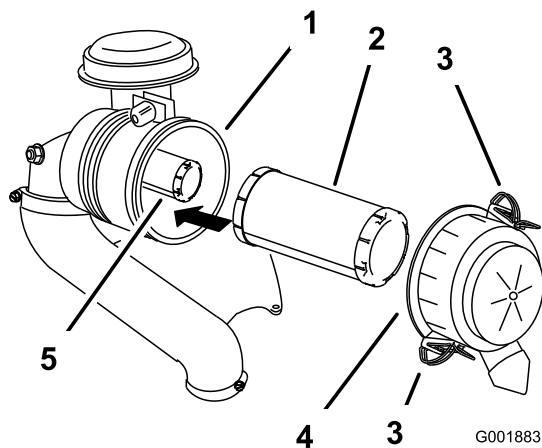

Figure 37
4. Release the latches on the air cleaner and pull the air-cleaner cover off the air-cleaner body (Figure 37).
6. Gently slide the primary filter out of the air-cleaner body (Figure 37).
4. Install the air cleaner cover and secure the latches (Figure 37).
2. If the inner filter is being replaced, carefully slide it into the filter body (Figure 37).
3. Carefully slide the primary filter over the inner filter (Figure 37).